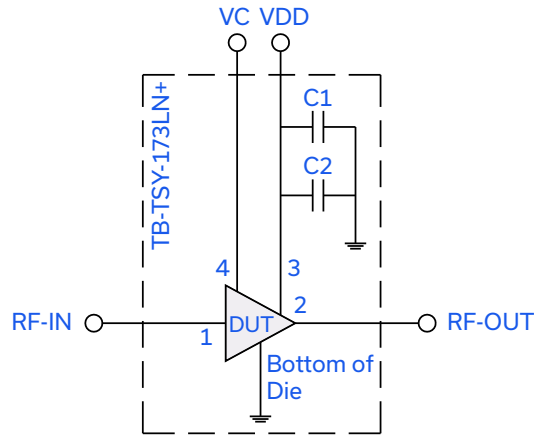

Fig 1. Application and Characterization Circuit
1. Measured on Mini-Circuits Characterization Test Board. Die is packaged in 2x2 mm 6L MCLP and soldered on TB-TSY-173LN+ (See Figure 1)